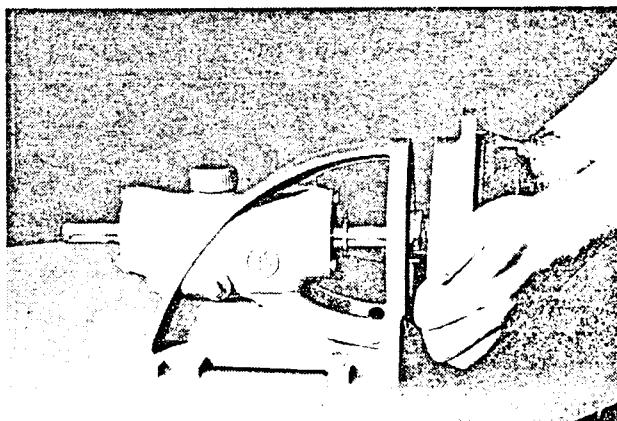

Fig. 13 Removing the discharge cover
4. Undo the bolts connecting the bearing bracket (115) to the discharge cover (103a) and loosen the gland (407). Pull off the discharge cover – see fig. 13.